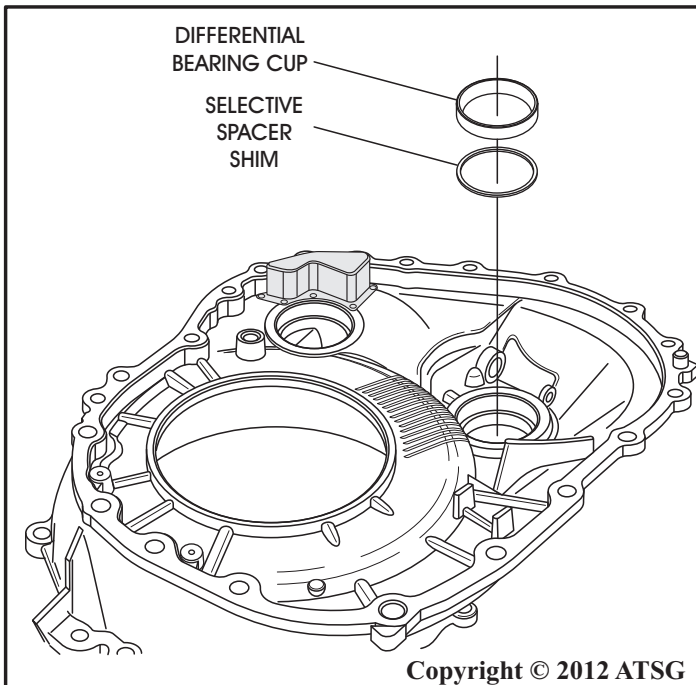

Figure 290
96. Install the original selective spacer shim and bearing cup, as shown in Figure 290, into the converter housing using proper drivers.
102. Remove the converter housing and the bearing cup, install the selected spacer and re-install the bearing cup, as shown in Figure 290.